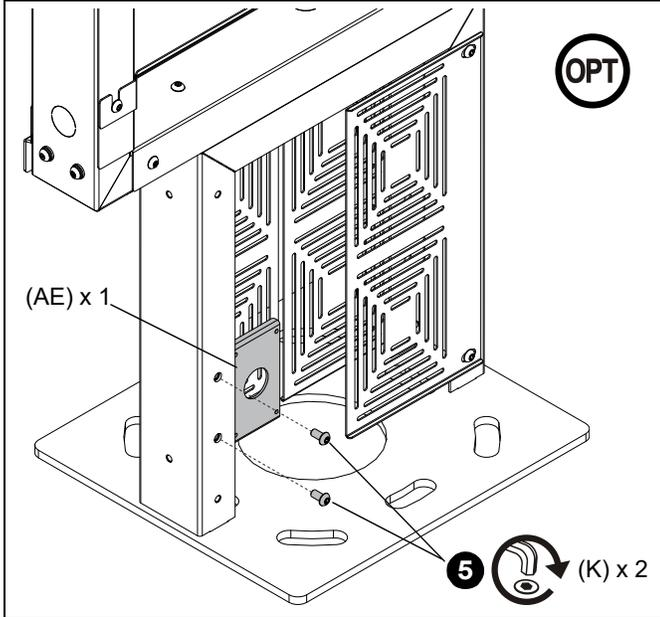

Figure 28
- OPTIONAL:** Install the outlet adapter (AE) to the base (AA) using two M8 x 16mm screws (K). (See Figure 28)